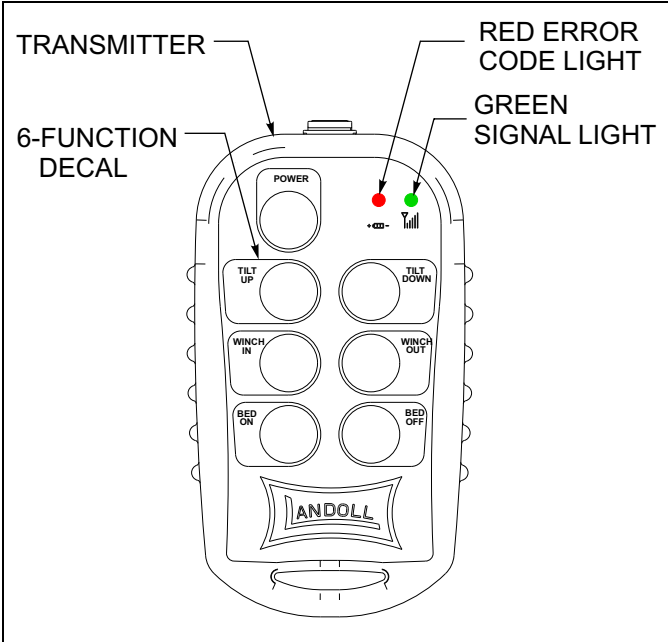

Figure 3-4: Remote Control Transmitter
- 1. A wireless six function radio remote control is available (See Figure 3-4.)